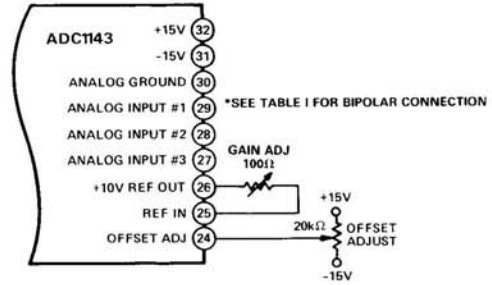

Figure 3. Offset and Gain Calibration
See Figure 3 for proper connections.
For operation, the only connections to the ADC1143 that are necessary are the power supplies, internal or external reference, input voltage pin programming, convert command and digital output. Refer to Table I for input pin programming and Figure 3 for offset and gain calibration.
Initial offset and gain errors can be adjusted to zero by potentiometers as shown in Figure 3. Proper offset and gain calibration requires great care and the use of extremely sensitive and accurate reference instruments. The voltage reference used as a signal source must be very stable and have the capability of being set within ±1μV of the desired value. The potentiometers should be good quality cermet type. Multiturn potentiometers having ten to fifteen turns and ±100ppm/°C temperature coefficients will be adequate. The temperature coefficient contribution will be less than ±0.1ppm/°C.
*If internal reference is used, Pins 25 and 26 must be connected together through a 100Ω potentiometer or 49.9Ω fixed resistor (see Figure 3 and Gain Calibration Section).